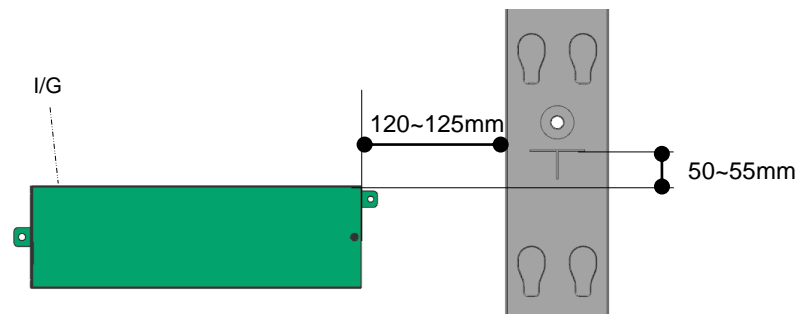

Fig2. Location to Fix I/G
- ※ Locate the I/G at the point 50~55mm below from the carving at the right side of the frame, and fasten the screw to fix. (Fig.2)